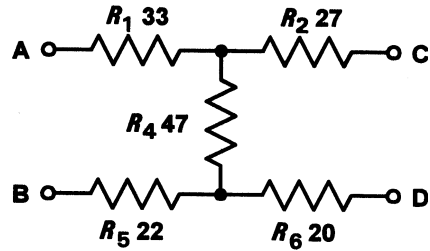

Figure 2.45
- 2.7 Determine the resistance of the network shown in Fig. 2.45 looking into terminals A and B with (a) terminals C and D open-circuit and (b) terminals C and D short-circuit.